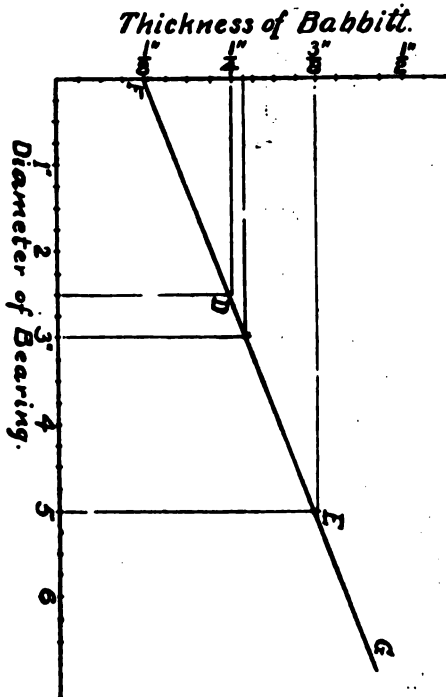

Fig. 1.
As f and i have been determined for the thickness of babbitt in bearings, formula (1) may be written  $d = \frac{C}{20} + \frac{1}{8}$  in which d, is the thickness of babbitt required and C, is the diameter of the shaft. All dimensions in inches. The problem may also be solved by the graphic method as shown in Fig. 1. Take a sheet of CUT No. 392.)
First strike up the diagrams, Figs. 1 and 2, and as the breeching is narrower at the bottom than at the top.